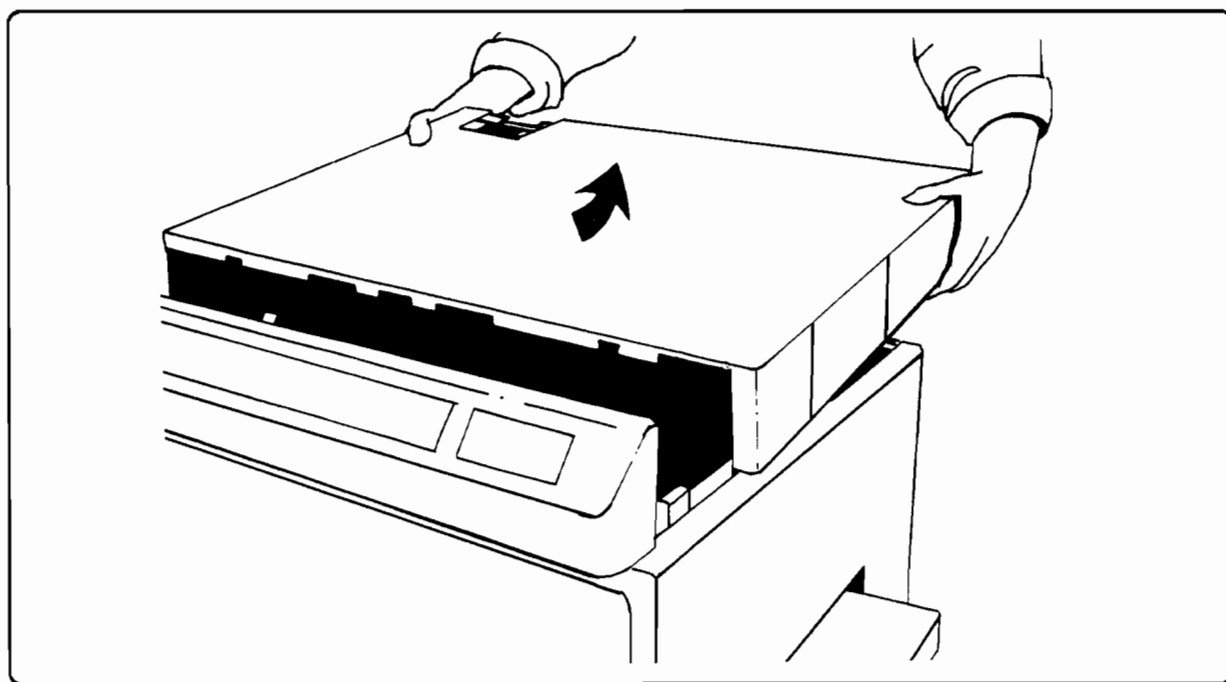

Figure 6-21. Removing the Top Cover
11. Remove the top cover. Pull and lift the cover as shown in Figure 6-21.